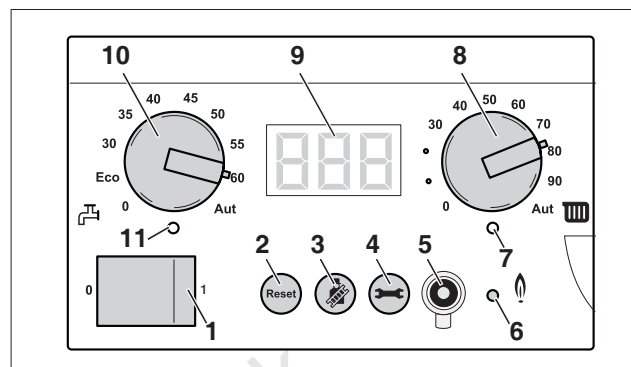

fig. 93 BC10 basic controller
- Switch off the heating system by pressing the mains switch of the Logamatic BC10 basic controller (fig. 93, **item 1**).
- Switch on the heating system by pressing the mains switch of the Logamatic BC10 basic controller (fig. 93, **item 1**).
- After the "Burner" LED (fig. 93, **item 6**) has lit up wait for one minute until the boiler is burning at part load.
- Press the "Chimney sweep" button (fig. 93, **item 3**) until the dot disappears from the display.